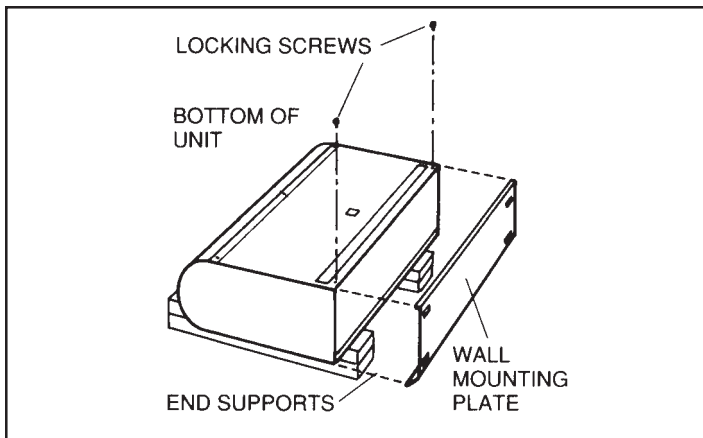

Figure 1
Carefully examine the carton(s) for damage before opening. If the carton is damaged, immediately notify the shipping company. Open the carton and remove all protective packing. Remove the unit by lifting vertically. Place the unit upside down on end supports to avoid damage to the electrical junction box. If the unit will be wall mounted, remove and save the two (2) locking screws from the back corners and detach the wall mounting plate. **See Figure 1.**